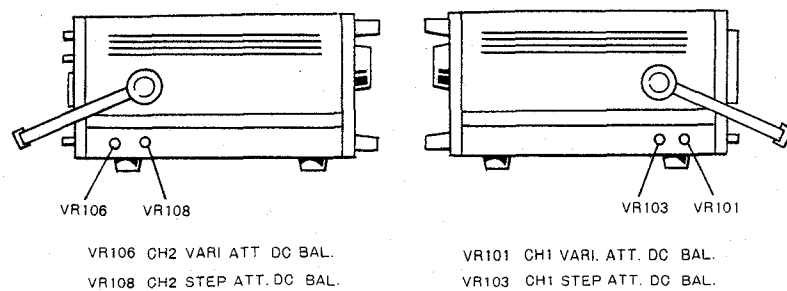

Fig. 41 Location of adjustments, right and left sides of scope
5. VARIABLE ATT DC BAL Adjustment (Fig. 41)
6. STEP ATT DC BAL Adjustment (Fig. 41)
9. VARIABLE ATT DC BAL Adjustment (Fig. 41)
10. STEP ATT DC BAL Adjustment (Fig. 41)